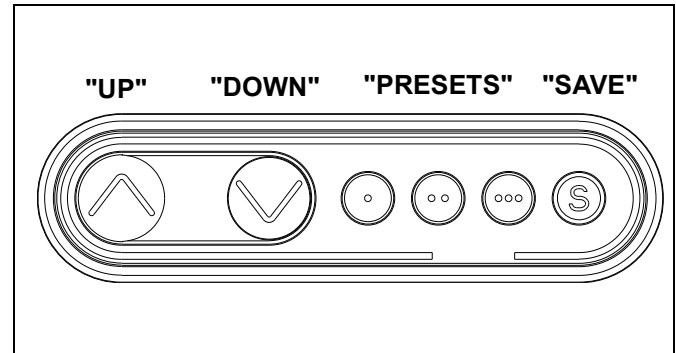

Figure 20
1. Press "UP" or "DOWN" buttons to raise or lower height as desired. (See Figure 20)
1. Adjust height until desired preset level is reached using "UP" and "DOWN" buttons. (See Figure 20)
2. Press "SAVE" button. (See Figure 20)
3. Press one of three preset buttons (., .. or ...) to save preset position. (See Figure 20)